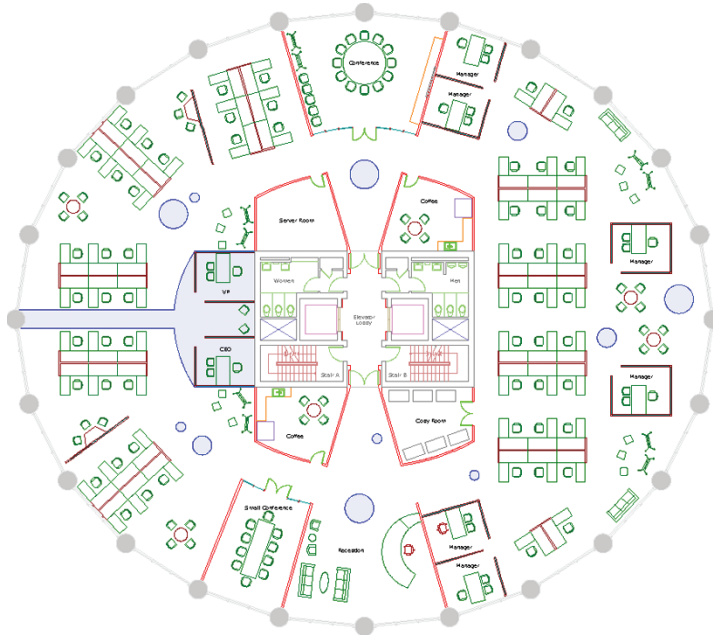

FIGURE 9.28 Core and shell drawing is externally referenced into the tenant drawing.
- The core and shell appear faded with respect to the tenant drawing (see Figure 9.28).